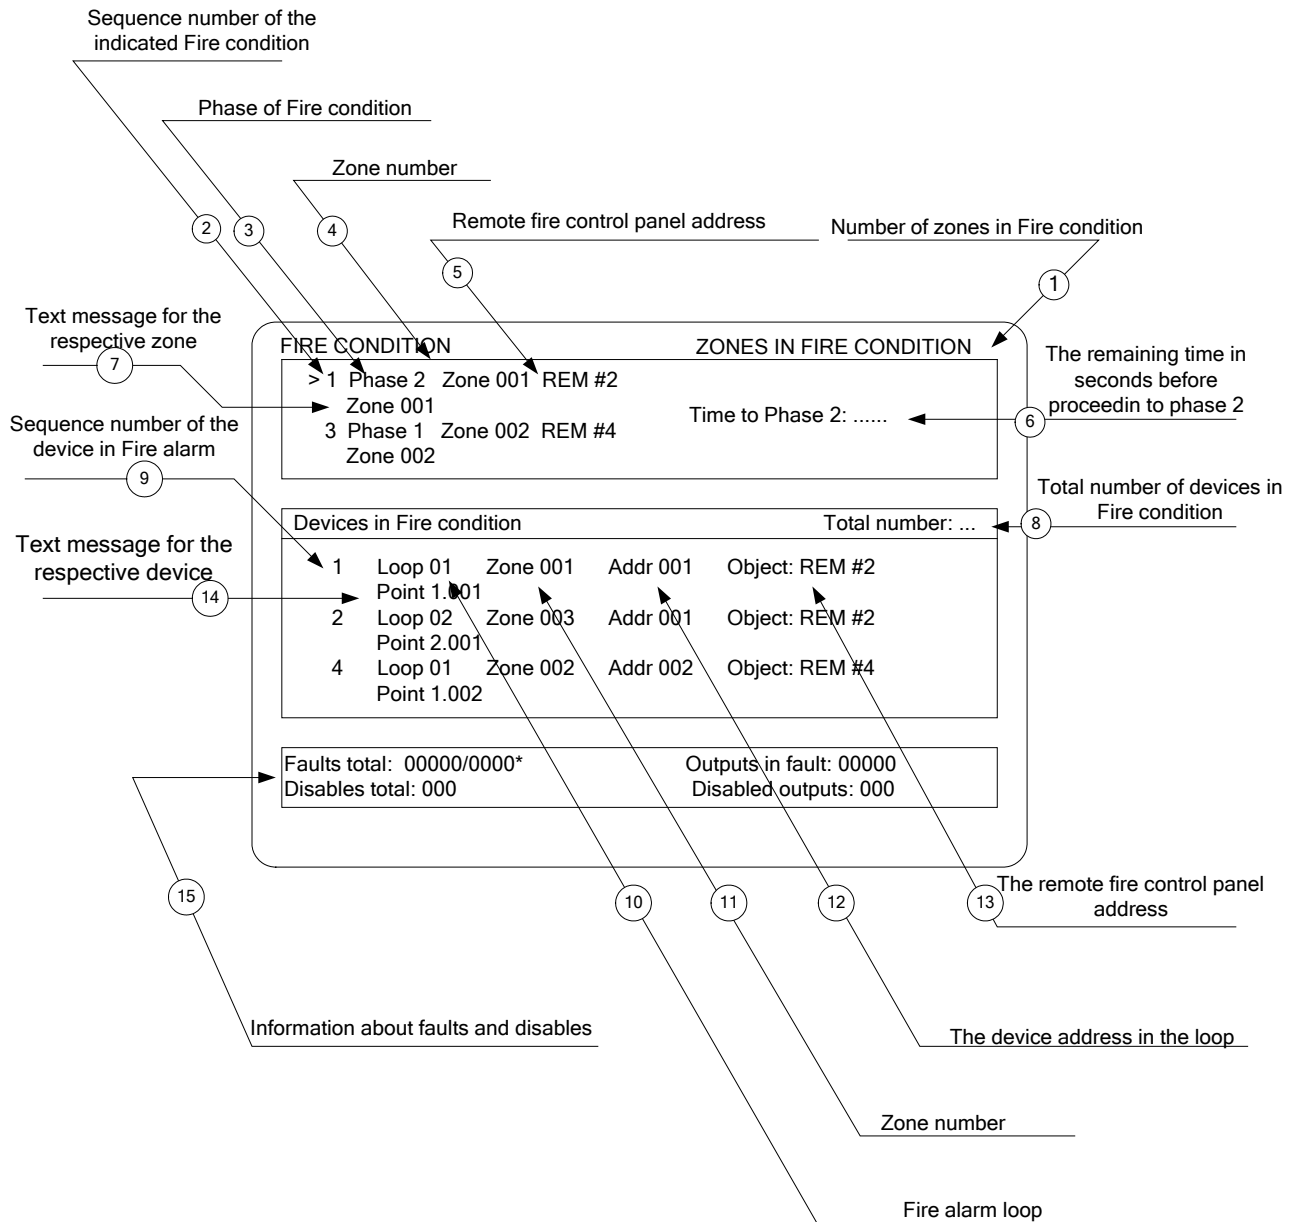

Fig.2
- The sequence number of the indicated fire condition (pos.2, fig.2).
- The phase of Fire condition detected by the fire control panel in this particular zone (pos.3, fig.2).
- The zone number (pos.4, fig.2).
- The address of the fire control panel in fire condition (pos.5, fig.2).
- The remaining time in seconds before the fire control panel proceeds to phase Fire condition stage II (indicated only in Fire condition stage I) (pos.6, fig.2).
- Text message for the respective zone (pos.7, fig.2).
In the head part is displayed the total number of devices in fire condition (pos.8, fig.2).
- The sequence number of the device in fire condition (pos.9, fig.2).
- The fire alarm loop where the device is integrated to (pos.10, fig.2).
- The zone number (pos.11, fig.2).
- The device address in the fire alarm loop (pos.12, fig.2).
- The remote fire control panel address that is in Fire condition (pos.13, fig.2).
- Text message for the respective device (pos.14, fig.2).